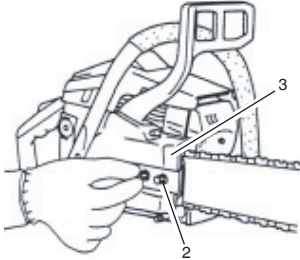
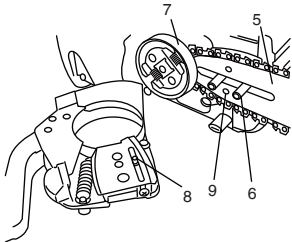

Fig. 2
Fig. 4
2. Remove chain bar clamp nuts (2). Remove the side case (3). (Fig. 2)
3. Install the chain bar (5) onto the bolts (6), then push it toward the sprocket (7) as far as it will go. (Fig. 4)
6. Install the side case (3) onto the bolts (6). Make sure that the boss of chain tension adjust bolt (8) fits into the hole of the bar (9). (Fig. 4) Then tighten the clamp nuts (2) by hand that allows the chain bar end to move up and down easily. (Fig. 2)